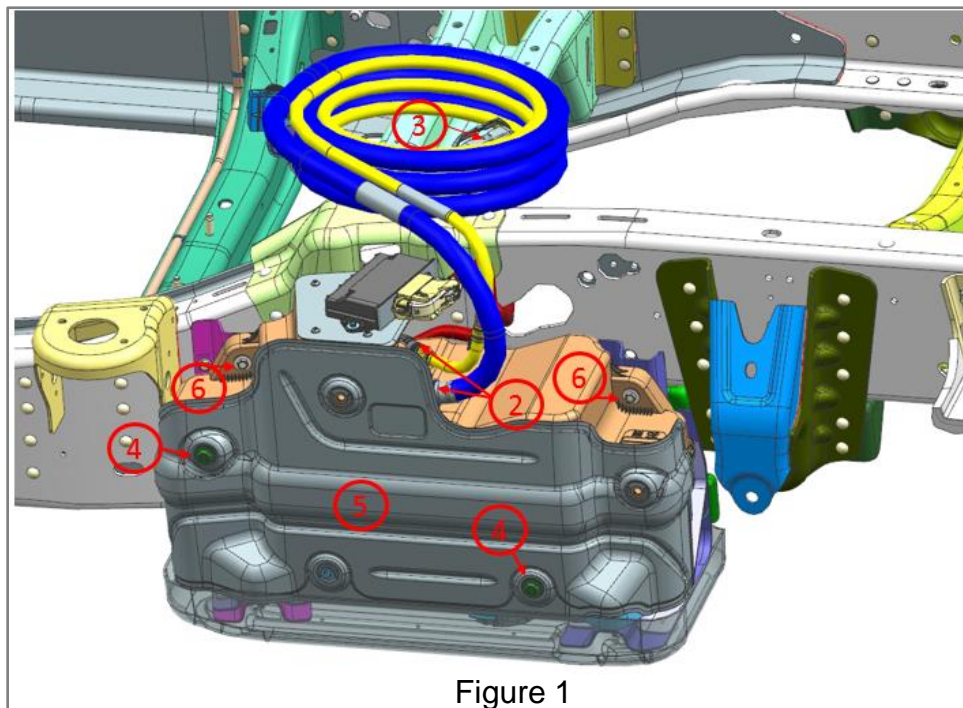

Figure 1
DEF Tank shown in the Factory built location (Figure 1)
1. Disconnect Fill and Vent line (Figure 1 - item 2)
2. Disconnect DEF Harness (Figure 1 - item 3)
3. Remove Retainers-Heat Shield (Figure 1 - item 4x2)
4. Remove Heat Shield (Figure 1 - item 5)
5. Remove DEF Tank fasteners (figure 1- item 6x4)